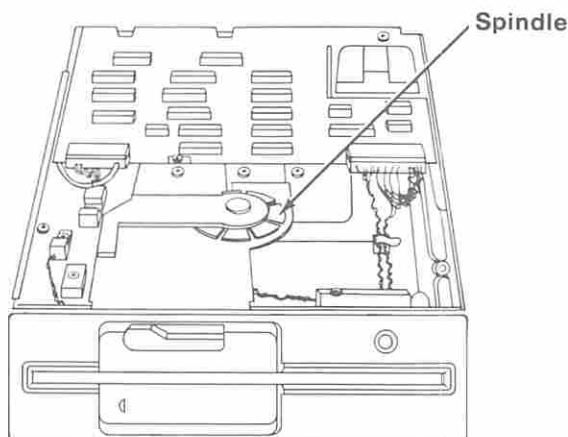

Figure 13. Diskette Drive Spindle
- Power on the system and observe the spindle on diskette drive A (Figure 13).